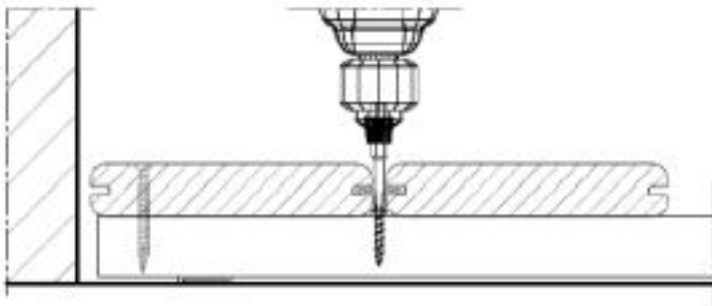

Figure 2
5. Once 1st and 2nd boards are positioned, tighten the NexGEN screws down. A special bit is provided. Do not over tighten the screws (Figure 2). Use a plastic hammer to tighten the 2nd board to the 1st one (Figure 3). Repeat the same steps for next boards.